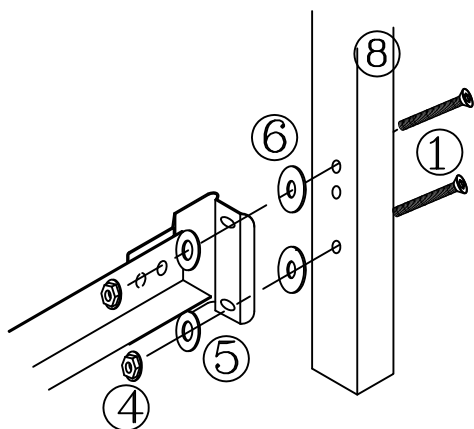
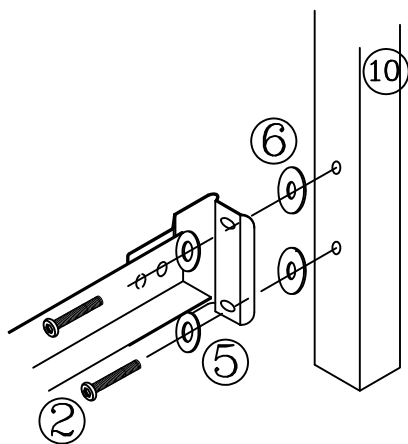

FIGURE 2
FIGURE 3
- Place 2 screws (1) through holes located in leg (8). (See Figure 2) Slide rubber washers (6) over screws (1).
- Place a flat washer (5) first and then a nut (4) on each screw. Hand-tighten, DO NOT TIGHTEN screws all the way.
- Position footboard panel and align holes in the post (10) with holes in the frame bracket. See figure 3
- Place flat washer (5) on each screw (2). Insert through bracket, rubber washer (6) and into post. Hand-tighten, DO NOT TIGHTEN screws all the way.